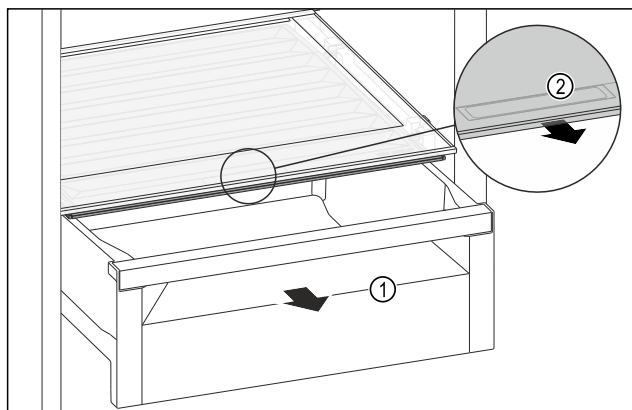

Fig. 96
- ▶ Pull out the drawer Fig. 96 (1).
- ▶ Grasp the recessed grip Fig. 96 (2) on the compartment lid and pull the compartment lid forwards at the same time.